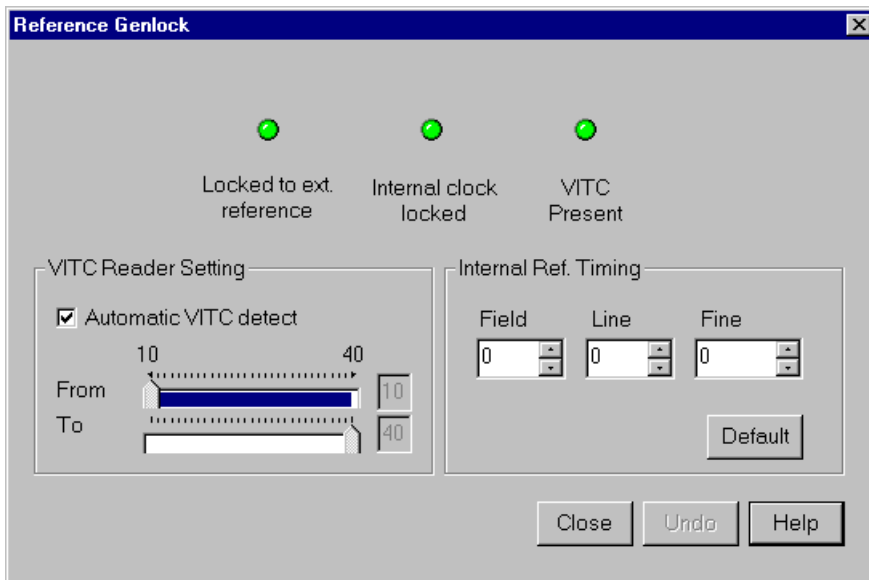

Figure 9. Reference Genlock dialog box
1. Click or double-click **Genlock** from the configuration tree and the Reference Genlock dialog box appears (see Figure 9).